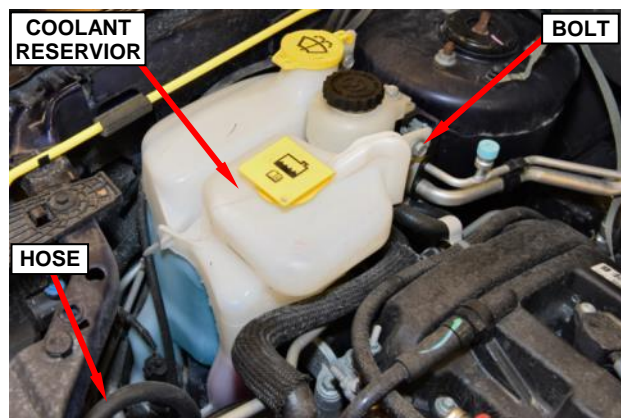

Figure 13 – Coolant Reservoir
41. Remove and save the coolant reservoir retaining bolt (Figure 13).
42. Disconnect the coolant reservoir hose from the radiator inlet hose (Figure 13).
43. Remove and save the coolant reservoir (Figure 13).